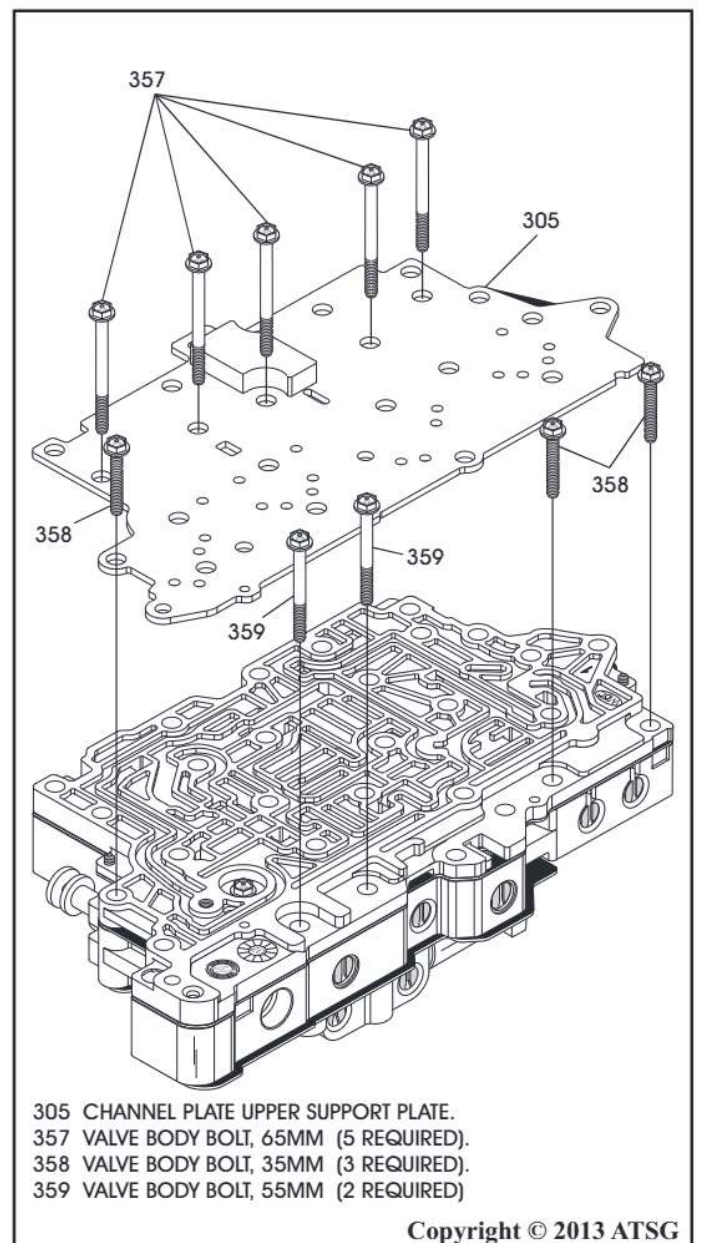

Figure 183
34. Install the channel plate upper support plate, as shown in Figure 183.
35. Install the five 65mm bolts and one 35 mm bolt into the upper support plate, in positions shown in Figure 183, finger tight only.
36. Install two 55 mm bolts into valve body in the positions shown in Figure 183.
37. Install two 35 mm bolts into valve body in the positions shown in Figure 183.